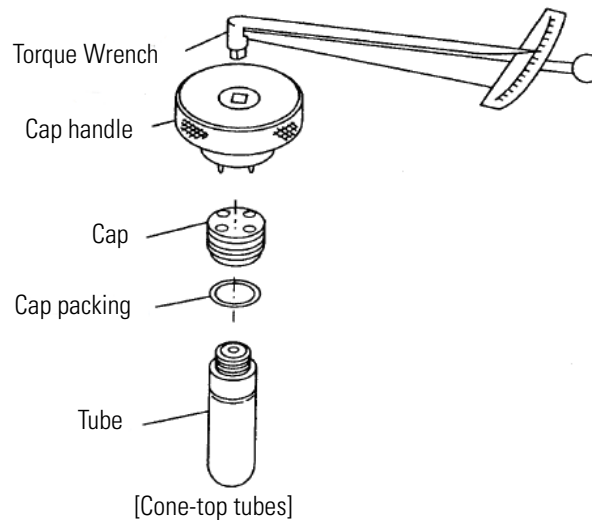

Figure 3-12 Placing and tightening caps
- b. Place the caps on the tube cavities and tighten it securely with the handle. In case of Cone-top tubes, tighten the caps with the cap handle and torque wrench, and the tightening torque must be 7.845 N/cm (Figure 3-12).